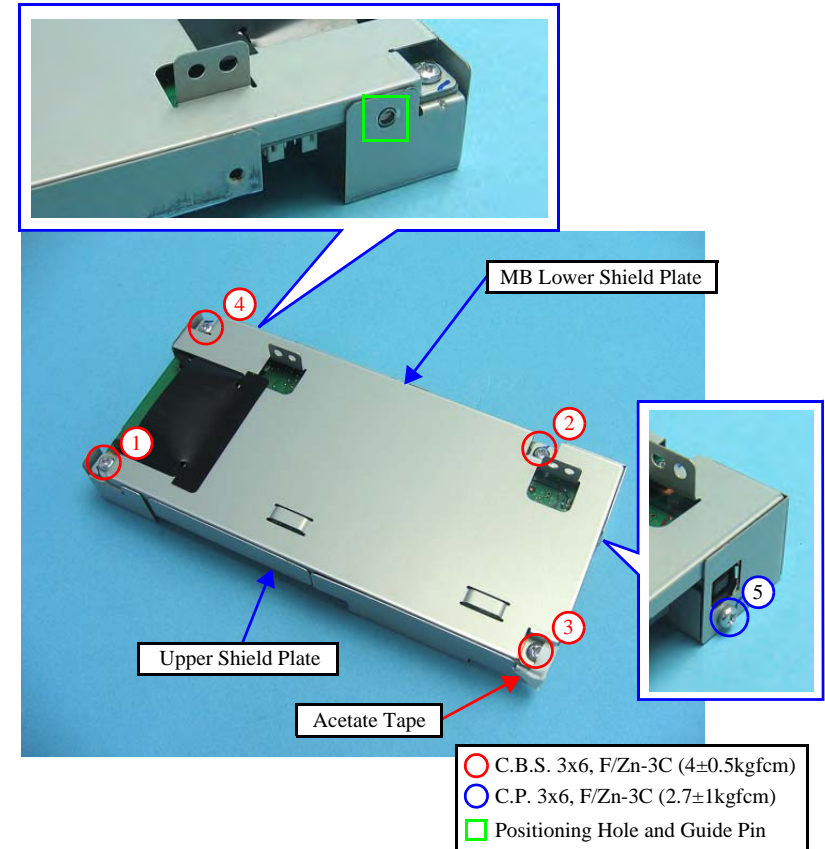

Figure 4-18. Removing the Main Board (1)
- Match the positioning hole of the Main Board with the guide pin of the MB Lower Shield Plate as shown in Figure 4-18.
- When installing the MB Lower Shield Plate, make sure that the Upper Shield Plate is set over the MB Lower Shield Plate as shown in Figure 4-18.